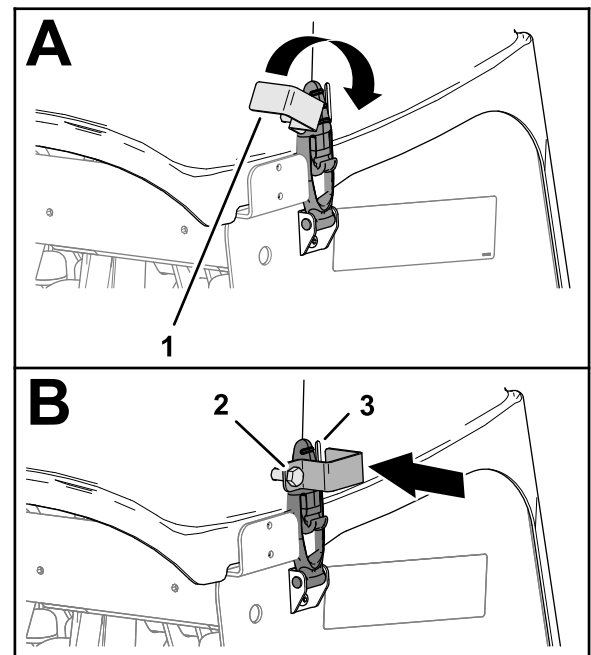

Figure 154
3. If you machine has CE latch locks, rotate the lock plate until it aligns with the slot in the side of the coring-head cover (Figure 154).
4. Tighten the lock-plate bolt (Figure 154).